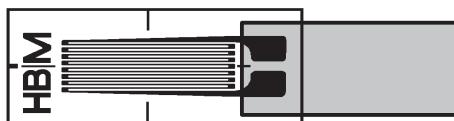

Fig. 5.3 Hinge-like connection for SG without lead
- In SG without leads, create a hinge-like connection as shown in *Fig. 5.3* (without additional solder terminals).